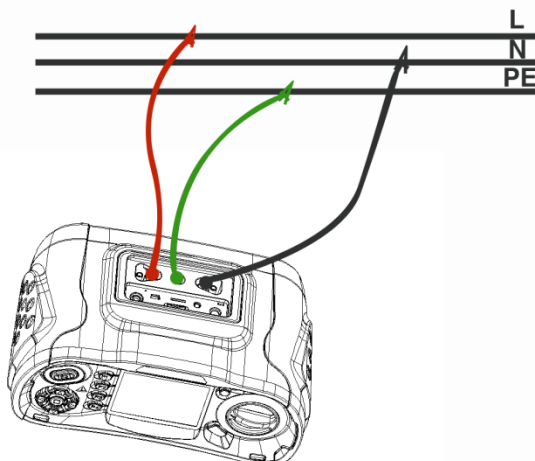

Figure 12 L-N Line Impedance – Test leads connection
3. Connect the test leads as shown in Figure 12